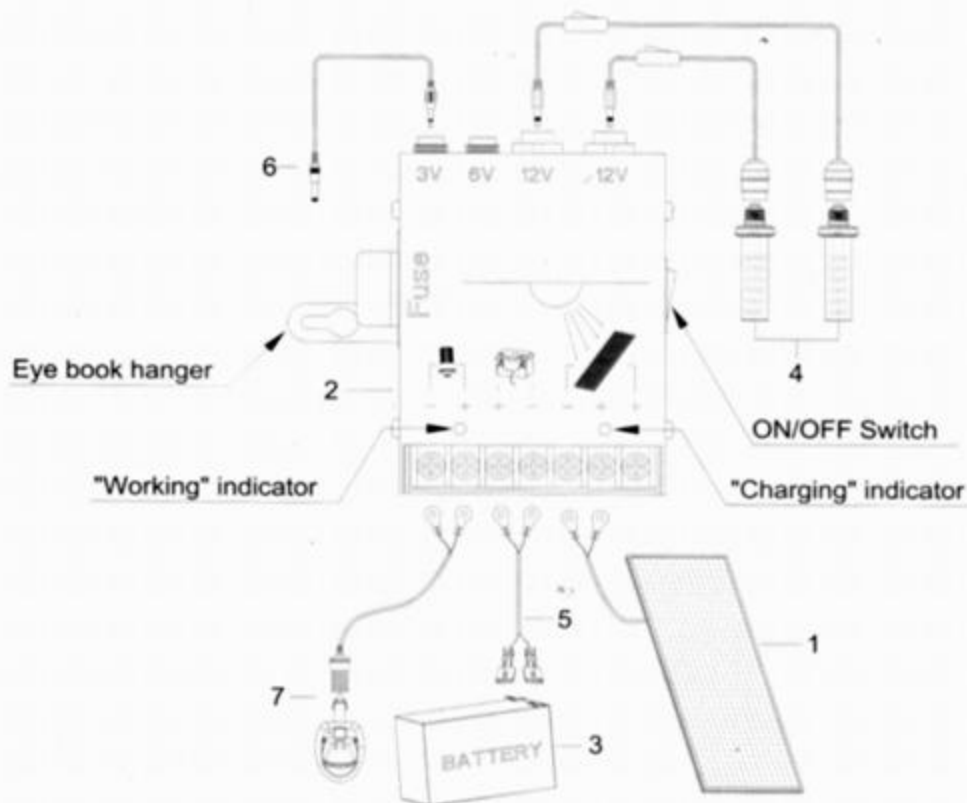

Fig. 1
How to use? (See Fig. 1)
- Connect the rechargeable battery to the "Battery"  Terminal of charge regulator, Use the provided lead wire (See Fig. 1)
- Two provided DC LED light kits can be plug to the two 12V outputs to support lighting(See fig. 1). Duration time of the DC LED light may vary according to the amount of sunlight the solar module receives during day time. But a fully charged battery can support two LED lights for continuously 10 hours.